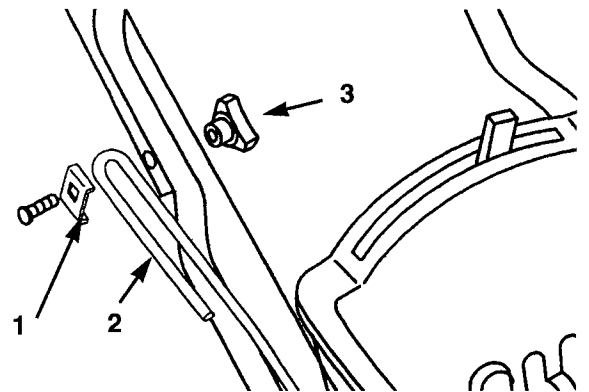

Figure 35
- C. Install the U-shaped end of the mounting rod against the outside of the mower handle, using the new bracket and the original bolt and handle knob (Fig. 35). Make sure the curved sides of the bracket fit around the mounting rod.